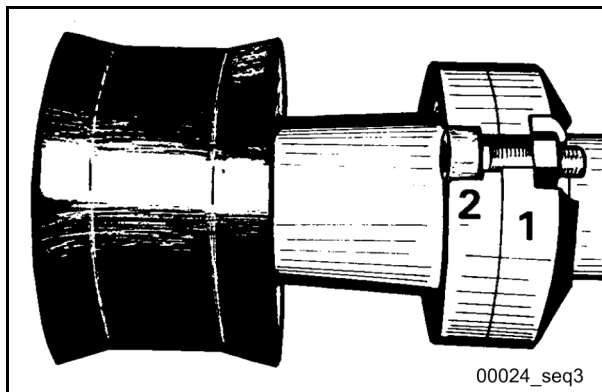

Fig. 190
- Connect the piston rod flange (1) to the pumping piston flange (2) using a screw and nut as shown in (**Fig. 190**).